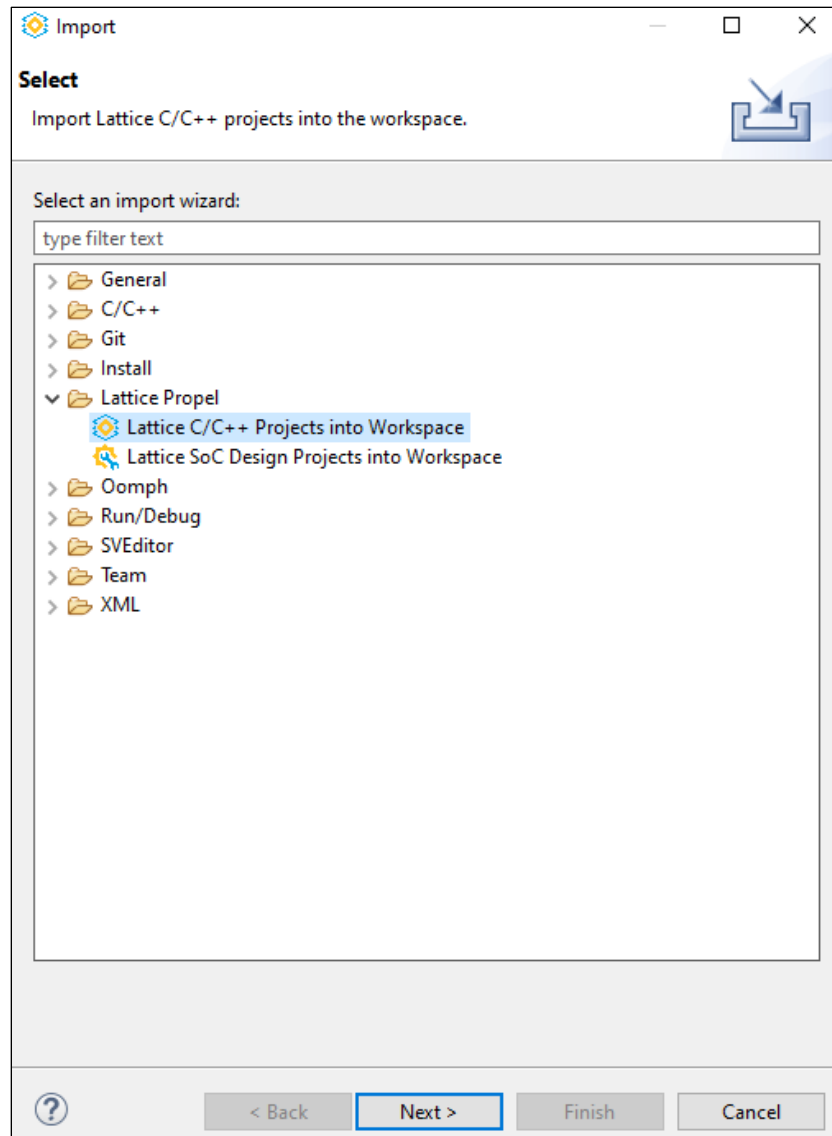

Figure 5.8. Import Lattice C/C++ Projects into Workspace
4. In the Import window, select **Lattice Propel** -> **Lattice C/C++ Projects Into Workspace**. Click **Next** (Figure 5.8).